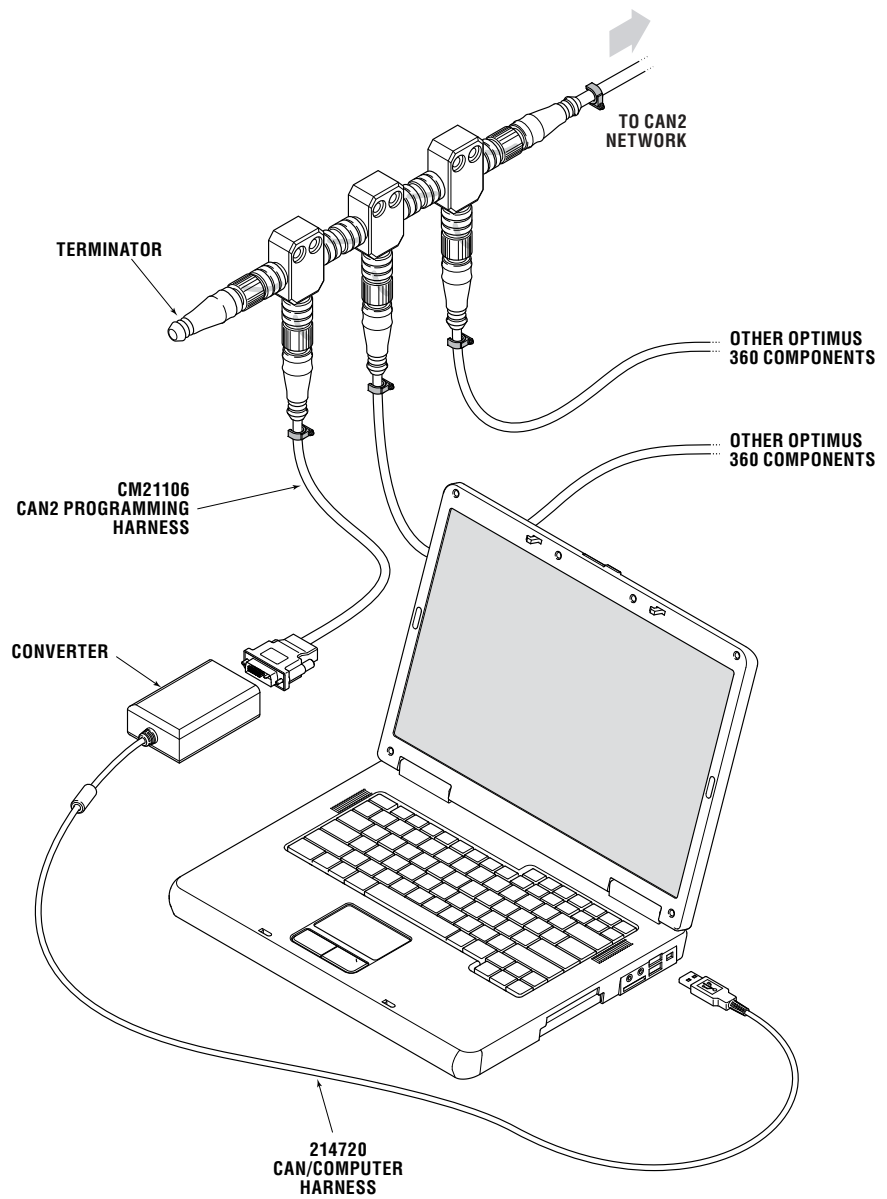

Figure B-1. Dealer kit connection.
1. Connect the notebook computer to an unused CAN2 network port using the CAN2 programming harness as shown in figure B-1. If necessary an additional tee may be installed but *must* be removed or capped after use. If the spare tee is left in the system, there must still be one (and only one) terminator at each end of the CAN2 bus.